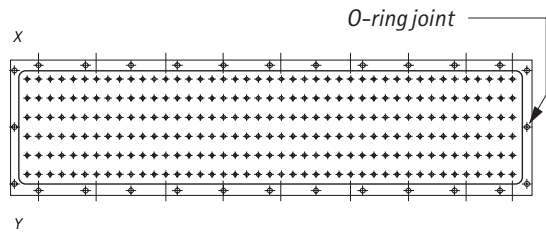

Figure 5b. Tube plate with a groove for an O-ring
- 4 Mount the header. Tighten the screws alternately on the X and the Y side towards the O-ring gasket joint, according to Figure 5b. Tightening torque: 70 Nm.